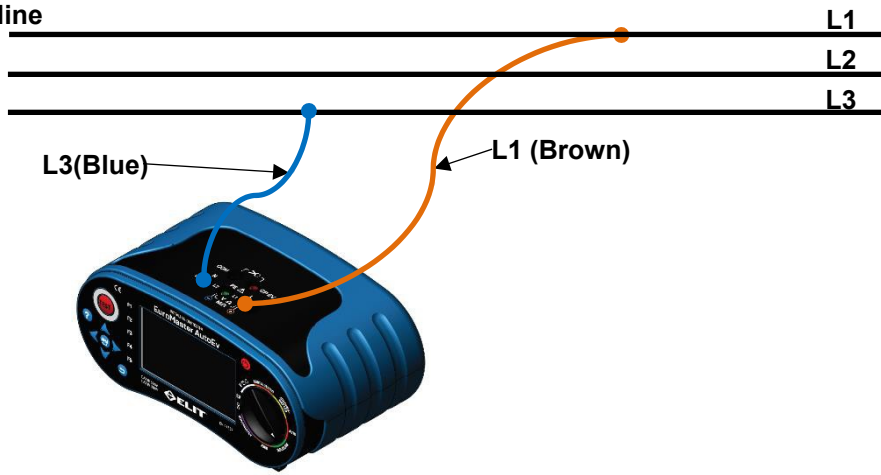

Figure 6.5.10 Z-line / L-L Connection.
- III. Connect the test leads as shown in Figure 6.5.10.